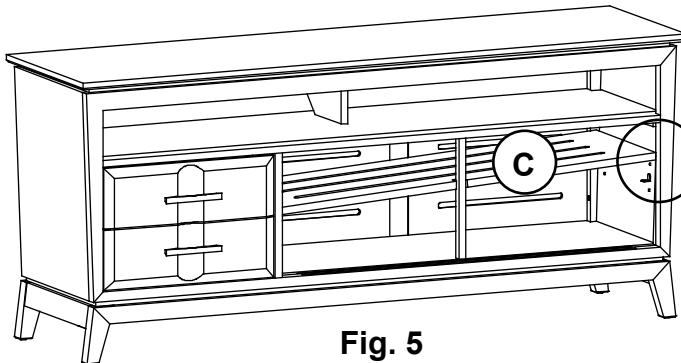

Fig. 5
5. To move the Adjustable Shelf (C), remove the #6 x 1/2" Undercut Screws (O) and the Shelf (C). Reposition the Shelf Brackets (ZI) to the desired positions, replace the shelf and insert the screws. See Figures 5 and 5a.